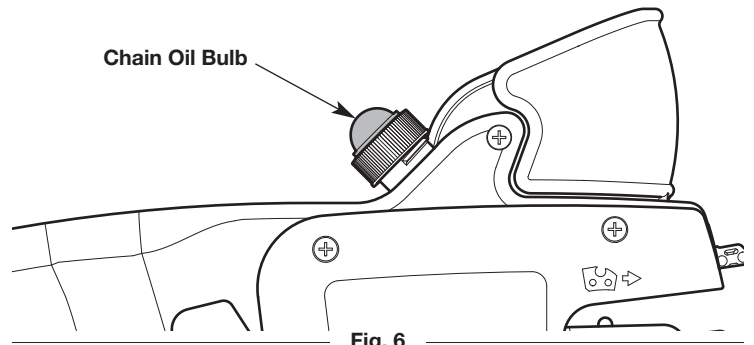

Fig. 6
3. Press the chain oil bulb to oil the guide bar and saw chain (Fig. 6).